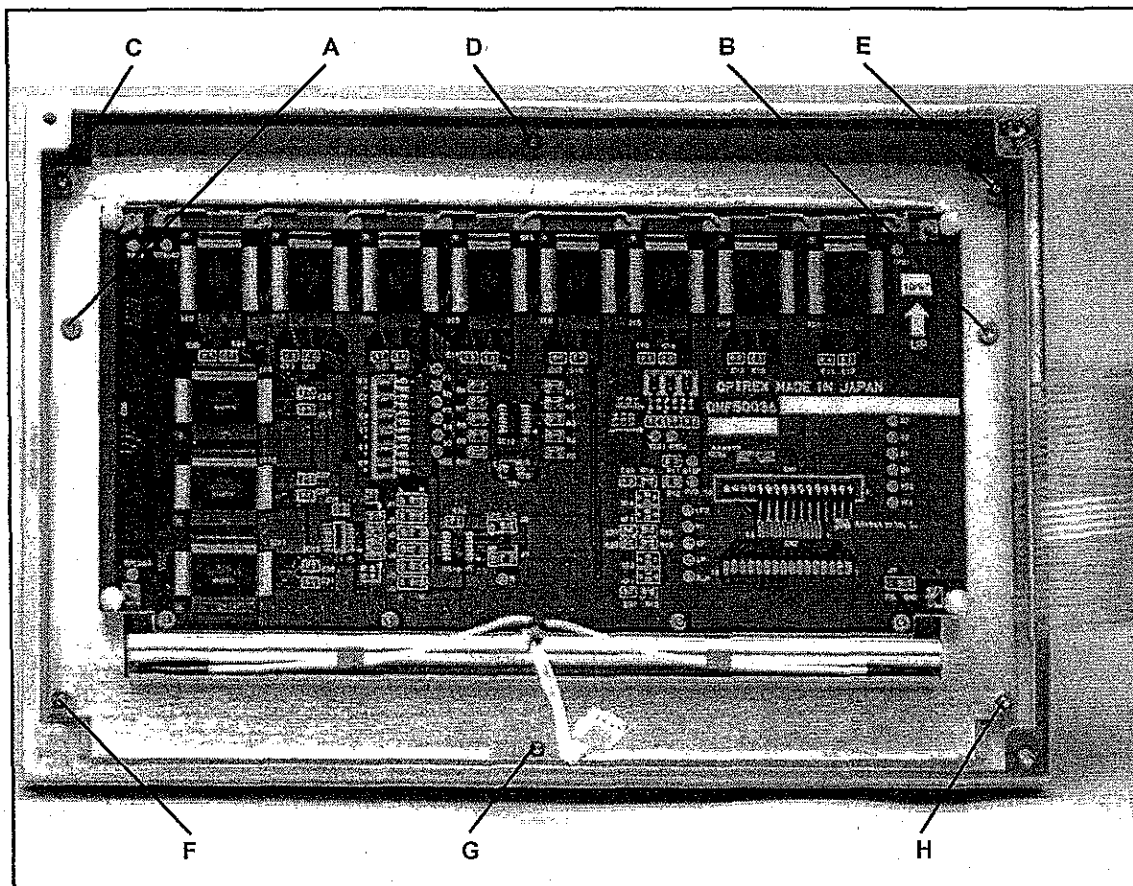

Figure 4-4: Remote's Top Enclosure
Refer to Figure 4-4.
3. Use the 1/4" nut driver and remove the six (6) hex nuts labeled C, D, E, F, G, and H in Figure 4-4. Remove and save the washers and Delrin (plastic) shoulder washers.
5. Use the Philips screwdriver to remove two (2) screws labeled A and B in Figure 4-4.
3. Insert screws A and B shown in Figure 4-4 and tighten with the Philips screwdriver.
5. Install the six (6) Delrin shoulder washers labeled C, D, E, F, G, and H in Figure 4-4. The washers are keyed to permit the smaller circle to fit into the screw openings.
6. Use the 1/4" nut driver to replace the washers and the six (6) hex nuts over screws C, D, E, F, G, and H.